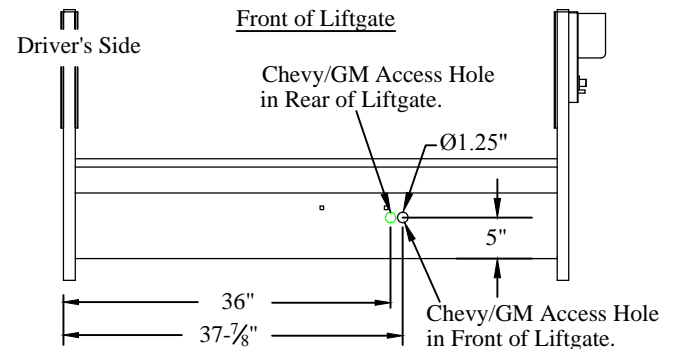

Figure 12: Spare tire access location for Chevy & GMC trucks.
2. **Remove** the black plastic plugs for your application (Figure 12).